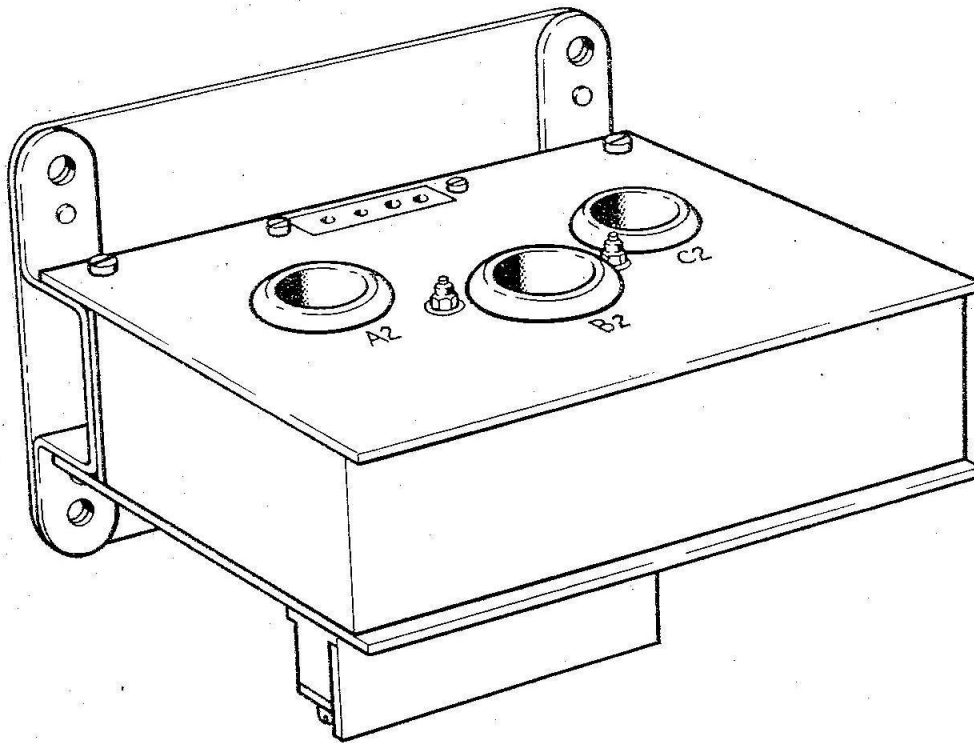
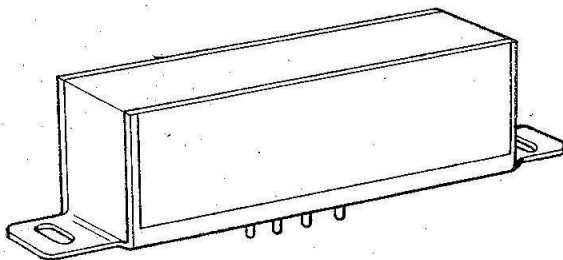

Fig. 1. Motor overload protection unit 26DC/12656
Fig. 2. Plug-in unit
2. All the components are mounted within an aluminium case and potted in Araldite 'D' (fig. 1). The cables of the three phase supply to the motor, pass through three holes in the top of the unit, two of the holes C2 and A2 being the centres of the current transformers. The Plug-in Unit, plugs into the top of the Protection Unit (26DC/12656) and comprises of a four layer diode, a capacitor and two resistors, all the components are mounted within the plug and potted in Silcoset 101 (fig. 2).